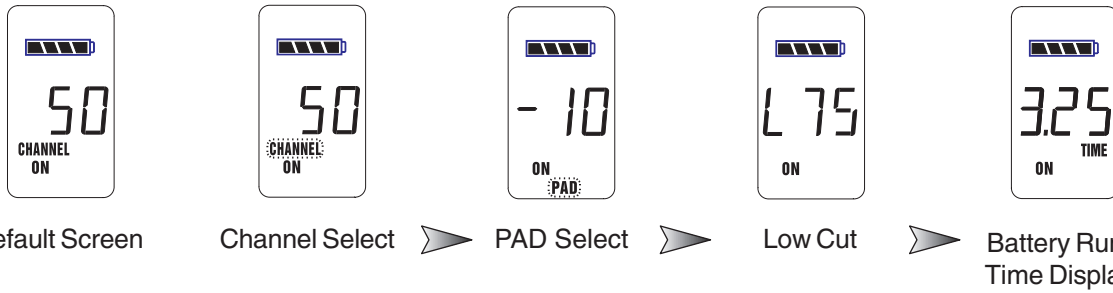

Fig. 4g
When the transmitter is first turned on, it shows an initial test screen (Fig. 4f), followed by the default screen (Fig. 4g). The LCD also reverts to this default display within a few seconds after any programming changes are made with the recessed controls. The default LCD display always shows transmission channel, audio level, and battery voltage level; additional information will appear to indicate important changes caused either by user adjustments, or automatically as transmitter status changes.
1. All transmitters report two types of battery status information. The first report is the all-important voltage the battery is supplying. Second, you'll know how long the battery has been in use (battery run time hours). Each receiver channel also receives telemetry information from its associated transmitter, regarding the battery voltage, and displays the information in the receiver LCD (see figure 5b). When the voltage reaches a level indicating an estimated 30 remaining minutes of useful battery life, both transmitter and receiver automatically flash warnings in their LCD displays. As an alternative means of anticipating battery depletion, you can check the number of hours of use, by checking the transmitter LCD display (see Section 4.2.2 and figure 4g), or the Remote Control Software.
**Equipment Connections.** Each SW70T or SW70H transmitter comes equipped with an SWC-POWR Tireless Wireless™ plug-in charger (see figure 4g). In addition, each SW70H comes with its own battery-charging mic clip (SWC70-CL). The SWC-POWR charger can be plugged directly into either the transmitter or into the clip. A Sabine rechargeable battery (SWBC1) will charge whenever the mic clip is connected to the Sabine SWC-POWR charger and the handheld is properly placed within the mic clip.